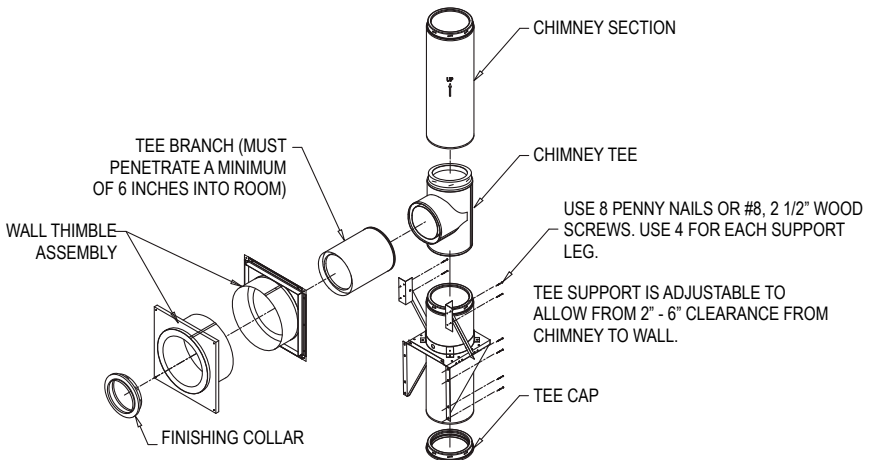
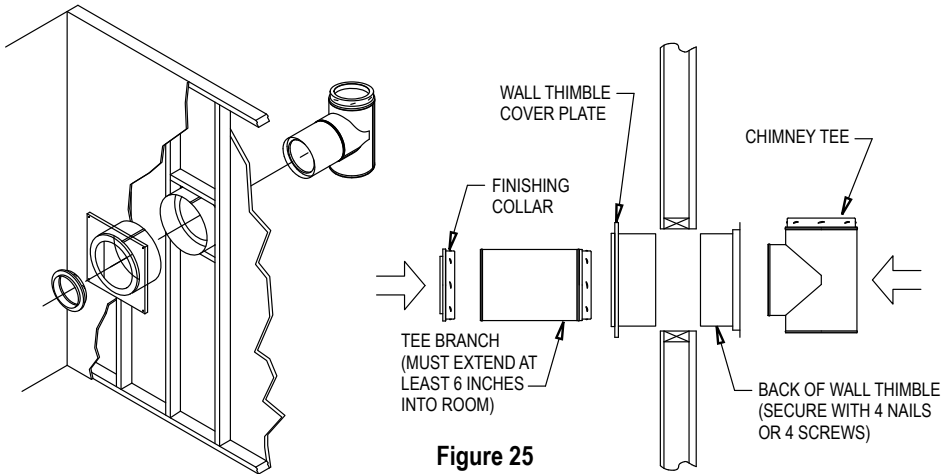
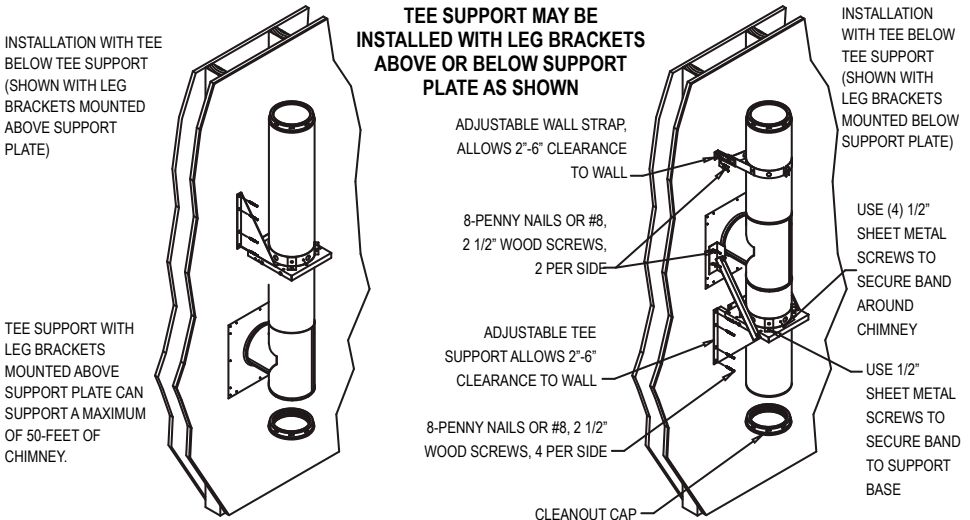

Figure 24
Figure 25
Figure 26
4. Install Tee Support: Install the Tee Support on the outside wall. Position Tee Support so that the chimney Tee will be centered inside the Wall Thimble (**Figs 24, 25, & 26**). The Tee Support may be installed either above the Tee or below the Tee (within one pipe section), as seen
in **Figure 26**. The Tee Support can support up to 50-feet of chimney by itself, or up to 70-feet of chimney if the Tee Support Straps are used (**Fig 24, 26**). Important: Verify that Tee Support is level, and secure the leg brackets of the Tee Support to the wall using (4) #8, 2-1/2" screws for each side. Slide support base over leg brackets to adjust for desired clearance to wall, and secure by tightening bolts. (**Figs 26 & 27**).
Section: Twist lock the Tee onto a desired length of Chimney to be used as the cleanout section. Use only one chimney section (any length) to attach to bottom of the Tee. Tighten support band around chimney section at proper height to insure that Tee is centered through Wall Thimble (**Fig 25 & 26**). Use the 1/2" sheet metal screws provided to insure a tight connection between support band and chimney section. Connect support band to support base using the 1/2" sheet metal screws provided (**Fig 26**). Twist lock Tee Cap into bottom of Chimney Cleanout section.
6. Install Branch onto Tee: From inside the house, attach the Chimney Branch up to 24" chimney section, depending on wall thickness, positioned horizontally used to pass through the wall to the Tee by twist locking it clockwise. Important: The Chimney section used to penetrate through the wall must extend at least 6" into the room (**Fig 25 & 27**). Use high-temperature sealant (500°F) to seal between the Wall Thimble and the Chimney on the outer wall.
7. Install Cover Plate and Finishing Collar: After the Chimney Branch is secured in place (penetrating at least 6" into the room), slide the Cover Plate over the Branch and attach it to the framing using (4) 1-1/4" long, round head wood screws. Be sure that the Branch is centered in the opening of the Cover Plate. Twist lock the Finishing Collar on to the female end of the Chimney Branch by twisting clockwise.